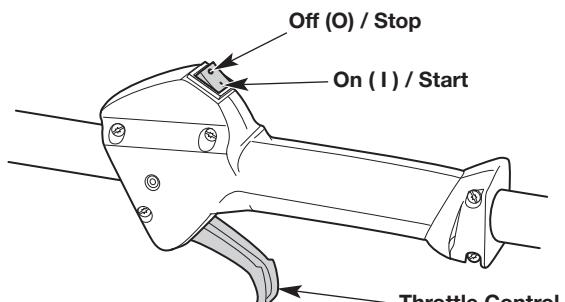
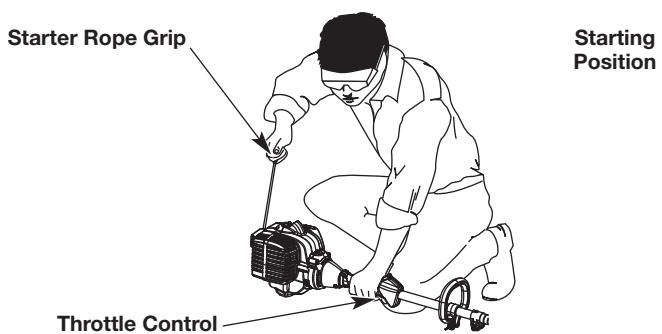

Fig. 8
Fig. 10
WARNING: Avoid accidentally starting the unit. To avoid serious injury, the operator and the unit must be in a stable position when pulling the starter rope (Fig. 10).
- NOTE:** There is no need to turn the unit on. The On/Off switch is in the ON (I) position at all times (Fig. 8).
5. Crouch in the starting position (Fig. 10).
6. Squeeze the throttle control (Fig. 8) and pull the starter rope with a controlled and steady motion **5 times** (Fig. 10).
2. Press and hold the On/Off switch in the OFF (O) position until the engine comes to a complete stop (Fig. 8).